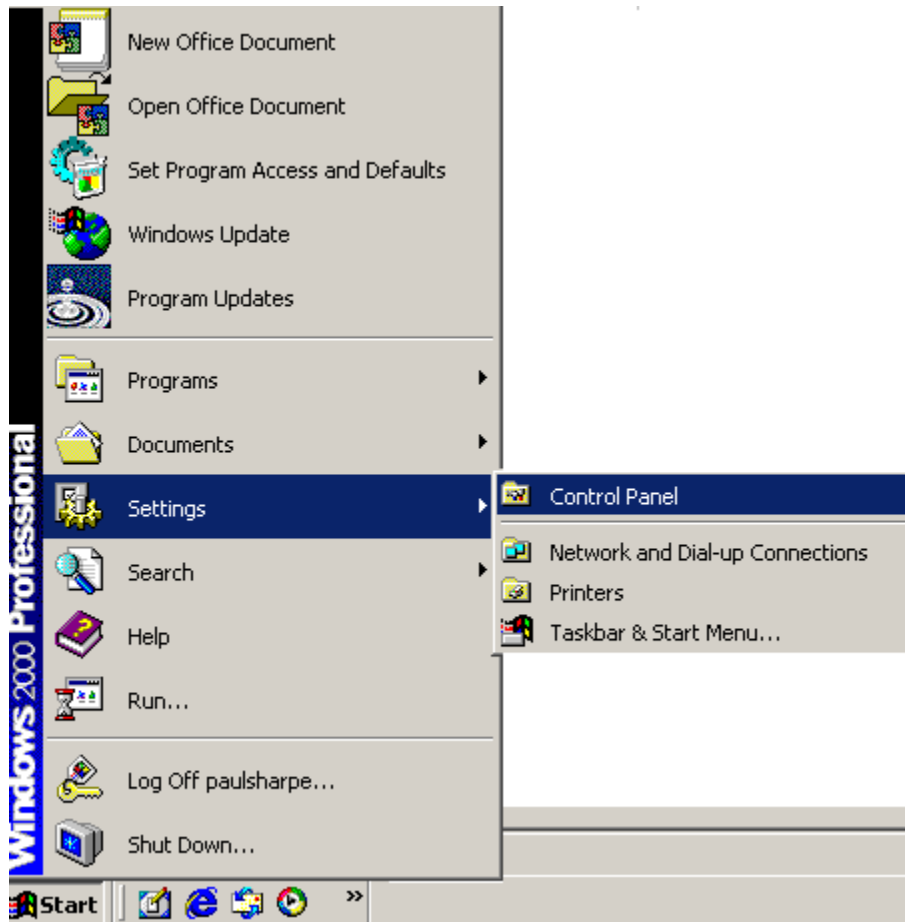

Figure 6-31: Access Windows Control Panel
Step 1: Open **Windows Control Panel** (Figure 6-31).